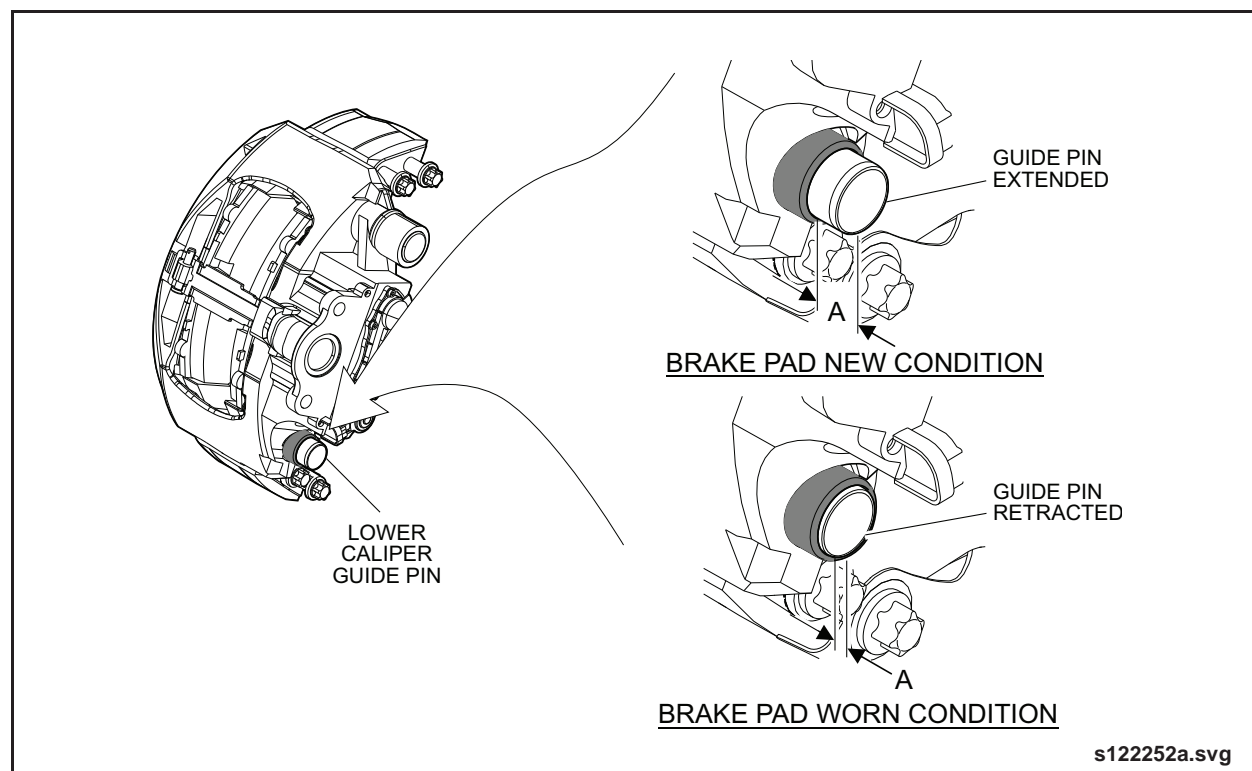

Fig. 1: Brake Pad Wear Inspection
2. Inspect the amount of guide pin bushing showing on the caliper lower guide pin. A fully extended bushing indicates a new brake pad condition. A retracted bushing with less than 1 mm showing indicates a worn brake pad condition. See "Fig. 1: Brake Pad Wear Inspection" on page 2.